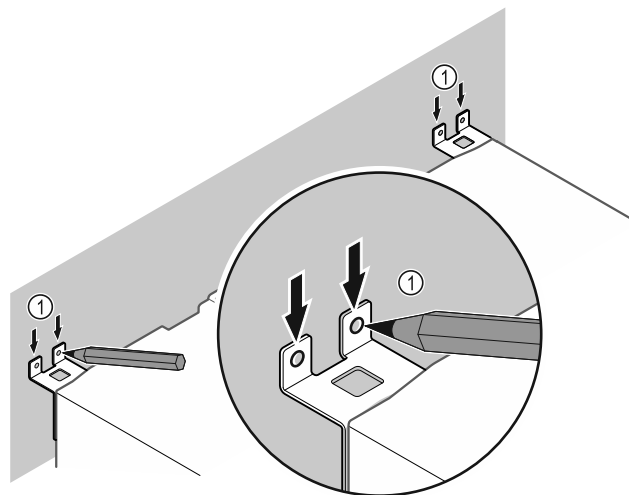

Fig. 12
- Make markings on the wall Fig. 12 (1).